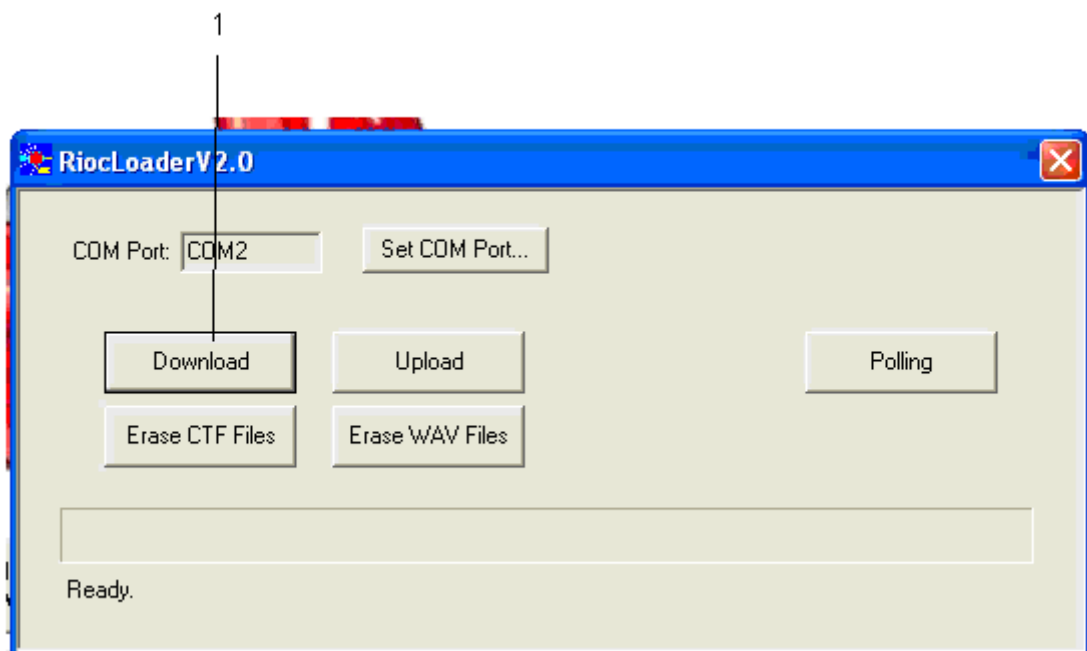

Figure 3
- (11) For RIOC 1 you must download the files that follow:
- (12) For each configuration file that must be downloaded do Step 2.B.(12)(a) thru (c).
- (a) Select the Download button (Ref. Fig 3, Item 1).